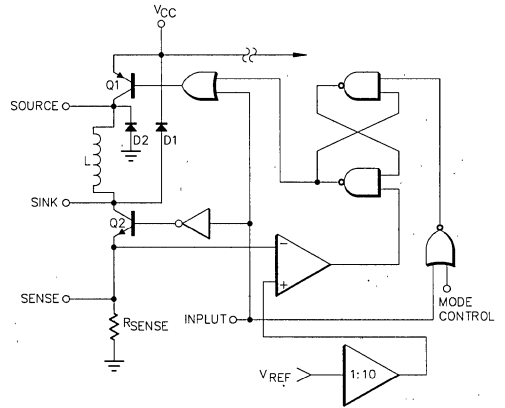

FIGURE 4 - TYPICAL APPLICATION IN NON-CHOP MODE (Refer to Figures 4 & 5)
**DESIGN EXAMPLES - CHOP MODE** (Refer to Figure 4)